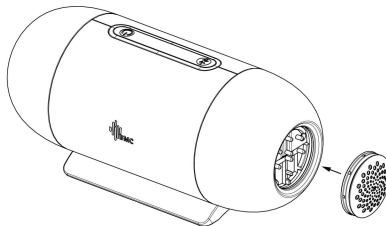

Fig. 18-1
- (1) Open the air filter cap to remove the air filter.
- (2) Put the new air filter in the filter area, and then place the filter cap back properly, as shown in Fig. 18-1.